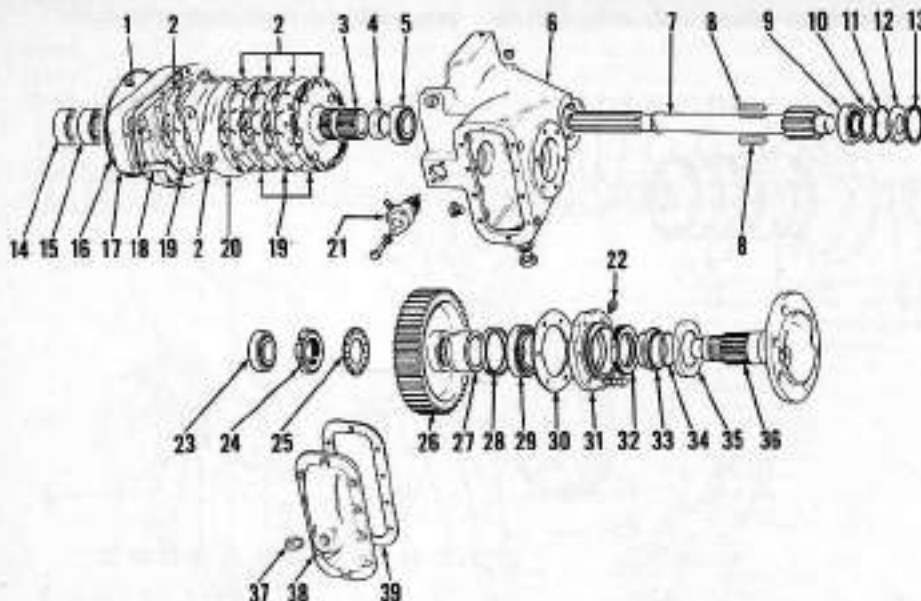
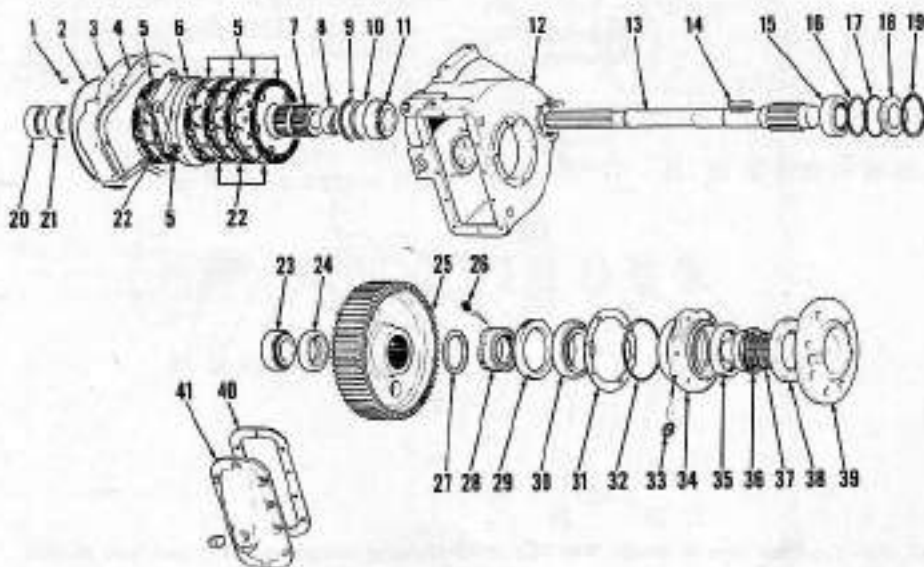
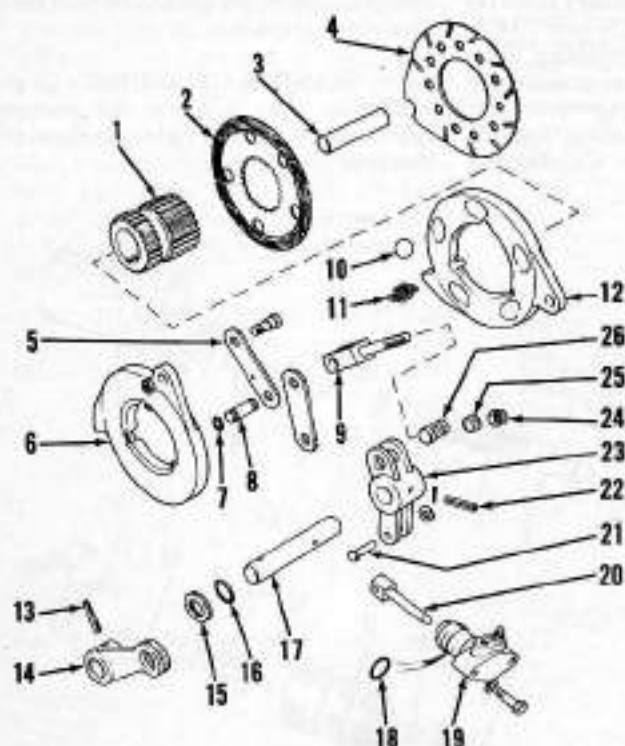

Fig. 179—Exploded view of Model 1490 final drive showing component parts and their relative positions.
Fig. 180—Exploded view of Model 1690 final drive showing component parts and their relative positions.
Fig. 181—Exploded view of component parts for disc brake systems showing their relative positions.
Breather assemblies are located in final drive covers (32 - Fig. 178) on 1190, 1290 and 1390 models and in brake housings on 1490 and 1690 models (1 - Fig. 179 or 180). Breathers must remain open and free of obstruction or gear motion will cause pressure build-up in final drive housing forcing fluid past axle shaft seals.
Raise and support tractor and remove tire and wheel from side to be serviced. Disconnect brake lines and cap openings. Remove parking brake cable and final drive cover (38—Fig. 179). Bend tab washer (25) and using special wrench (CAS-1210) loosen nut (24). Remove oil seal housing (31) retaining bolts and pull stub axle (36) partially out. Remove shims (30), nut (24) and washer (25). Remove stub axle completely and remove bull gear (26) and bearing (23) from housing. Remove seal (28) and bearing cup (23) from final drive housing (6). If axle shaft (7) is to be removed, remove final drive housing as outlined in paragraph 324.
Remove parking brake lever return spring and brake cover (17) retaining bolts. Drive roll pin (13—Fig. 181) from parking brake lever (14) and remove lever and dust shield (15). Remove snap ring (7) and drive pin (8) out of actuator links. Remove brake cylinder (21—Fig. 180). Remove brake discs on top of brake actuator. Remove actuator assembly and remaining brake discs. Install brake hub puller adapter (CAS-1644-3) on brake hub (3—Fig. 179). Make certain counterbore side of adapter (CAS-1644-3) is installed toward shorter hub splines and remove brake hub (3—Fig. 179). Remove snap ring (13) and press axle shaft (7) out of final drive housing (6). End cover (12), "O" ring (11), shims (10) and bearing cup (9) will be pressed out of final drive housing along with axle (7). Remove brake hub keys (8), spacer (4) and bearings (5 and 9), if necessary, from axle shaft. Remove remaining bearing cup from final drive housing and the two pinion shaft oil seals (14 and 15) from brake cover (17). Remove spacer (27) from stub axle (36) and press stub axle out of bearing (29). Remove seal housing (31), dirt shield (35) and "O" ring (34). Remove seal (32) from housing (31).
330. **REASSEMBLY.** Install bearing cones on axle shaft (7—Fig. 179). Install spacer (4) with chamfer edge toward bearing. Install bearing cup (5) in final drive housing (6) and install axle assembly (7) in final drive housing. Install outer bearing cup (9), end cover (12) and snap ring (13) MINUS shims (10) and "O" ring (11). Make certain bearing cup (9) is seated against end cover (12) and snap ring (13) and bearing cup (5) is seated in final drive housing (6). Mount dial indicator and measure and record end play of axle shaft (7). Remove snap ring (13), end cover (12) and install shim thickness 0.076 mm (0.003 inch) **THICKER** than measured end play to **PRELOAD** bearings 0.076 mm (0.003 inch). Install "O" ring (11), end cover (12) and snap ring (13). Install brake hub keys (8) and brake hub (3) making certain wider splines are next to bearing end. Install brake discs as outlined in paragraph 337. Install axle shaft inner seal (15) in brake cover (17) with seal lip toward inside surface of cover. Install outer seal with seal lip toward outside surface of cover. Lubricate seals, install gasket (18) and cover (17). Tighten bolts to 102 N·m (75 ft.-lbs.) torque. Reinstall final drive housing on tractor. Tighten mounting bolts to 136 N·m (100 ft.-lbs.) torque.
Raise and support tractor and remove tire and wheel from side to be serviced. Remove drain plugs from final drive housing and brake disc section and drain fluid 7.4 L (8 qts.). Remove final drive cover (41—Fig. 180) and place cushion or support under bull gear (25) to prevent damage when stub axle (39) is
Remove parking brake lever return spring and brake cover (3) retaining bolts. Drive roll pin (13—Fig. 181) from parking brake lever (14) and remove lever and dust shield (15). Remove brake cylinder (19) and snap ring (7). Drive pin (8) out of actuator links and remove brake discs which are on top of brake actuator. Remove actuator assembly and remaining brake discs. Remove snap ring (19—Fig. 180) and using a soft hammer drive axle (13), cover (18), "O" ring (17), shims (16) and bearing (15) from final drive housing (12). Remove all remaining bearing cups, spacers and snap rings from final drive housing. Press axle shaft (13) out of brake hub (7) and remove two keys (14). Remove spacer (8) and bearings (11 and 15) as necessary.
**333. REASSEMBLY.** Install bearing cones (11 and 15—Fig. 180) on axle shaft (13). Install spacer (8), two keys (14) and brake hub (7). Brake hub is installed with wider splined section against spacer. Install inner bearing snap ring (9), spacer (10) and bearing cup (11) into final drive housing (12). Make certain bearing cup is seated against spacer and snap ring. Install axle shaft (13) assembly into final drive housing. Install outer bearing cup (15), end cover (18) and snap ring (19) MINUS shims (16) and "O" ring (17). Hit end of axle shaft to seat outer bearing cup against end cover and snap ring. Mount dial indicator and measure and record amount of end play of axle shaft. Select thickness of shims (16) 0.127 mm (0.005 inch) **THICKER** than measured amount of end play and install under end cover (18). Install "O" ring (17), end cover (18) and snap ring (19). Install brake discs and actuator as outlined in paragraph 337. Install brake cover (3) and tighten retaining bolts to 102 N·m (75 ft.-lbs.) torque. Install seal (16—Fig. 181), dirt shield (15) and lever (14). Install roll pin (13) and brake return spring. Reinstall final drive housing on tractor. Tighten mounting bolts to 136 N·m (100 ft.-lbs.) torque.
Install bearing and cup (30—Fig. 180) into oil seal housing (34) until cup is seated. Install outer seal (35) with lip facing outward. Install inner oil seal (29) into seal housing with lip facing outward. Install "O" ring (37) on stub axle. Install dirt shield (38) with flat side toward stub axle flange. Install sleeve
(36) with flange side against shield. Lubricate seals and install seal housing (34). Use a smooth sided punch to drive bearing and housing down far enough to start nut (28) on threads of stub axle. Secure stub axle and using special spanner wrench (CAS-1241) fully tighten nut (28).
**NOTE: Nut (28) must be very tight or rapid wear and damage to gears and bearings will result.**
Remove parking brake lever return spring and remove brake cover (17 - Fig. 179) retaining bolts. Remove roll pin (13 - Fig. 181) and parking brake lever (14). Remove dirt shield and brake cover. Remove wheel cylinder (19). Remove snap ring (7) and drive pin (8) out of adjuster rod (9). Remove adjuster rod and bellcrank (23) assembly. Remove brake discs on top of actuator assembly, actuator assembly and brake discs which were under actuator assembly.